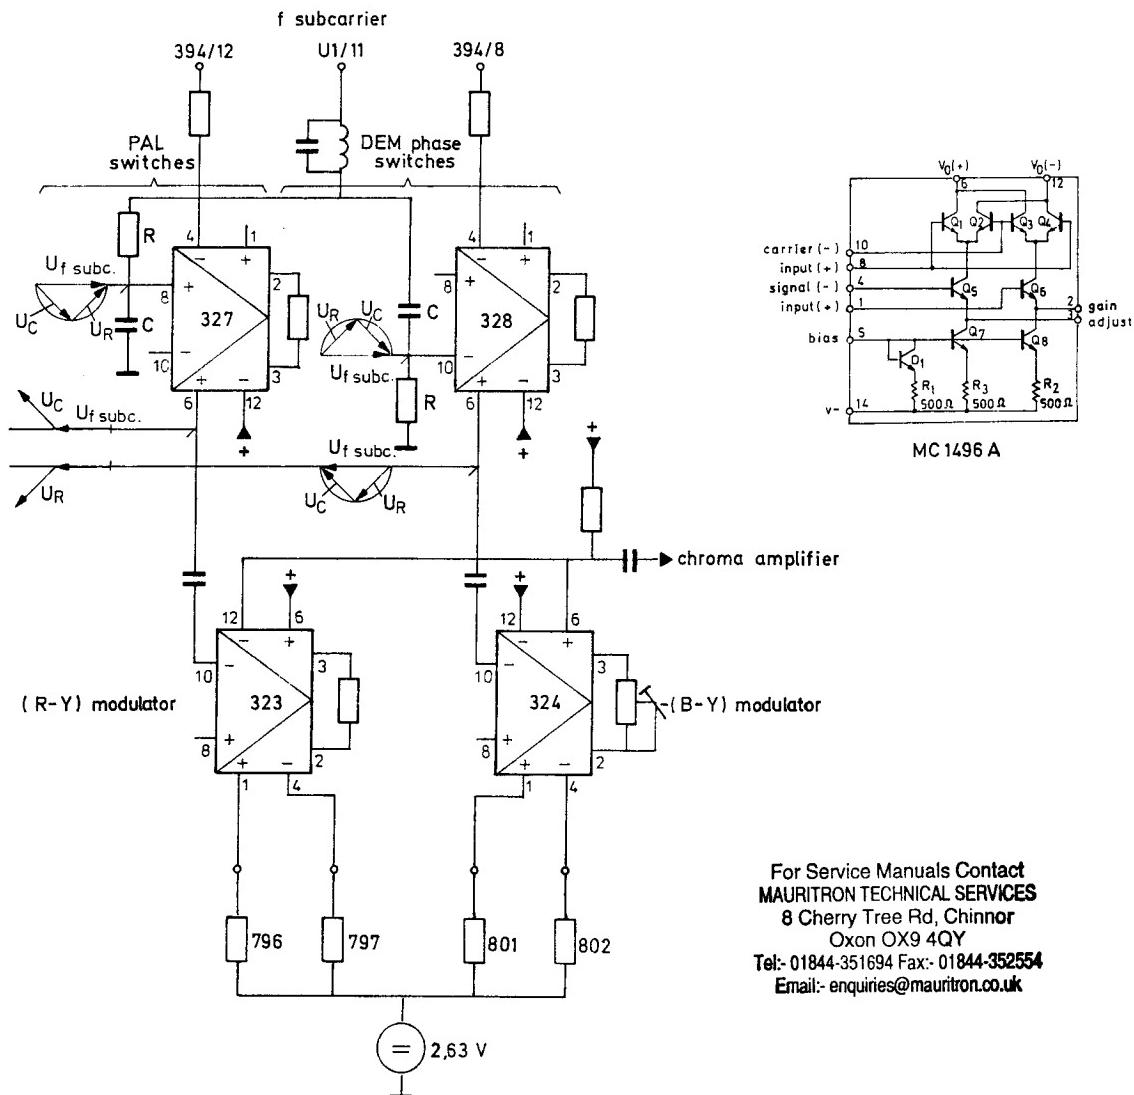

Fig. 18 Colour difference modulators and phase switches of the colour carrier frequencies
2.2.8. Synthesis of the chroma signals, fig. 18
- 2.2.8.1. The **chroma modulator** (fig. 18) consists of 2 output-coupled four quadrant multiplier 323 and 324/U10. The plus and minus signs are pointing out the directions of the input signals with respect to the outputs. The colour carrier frequency (f_{sub}) having passed the phase switches 327, 328 are applied to the chroma modulators 323 and 324, whereby the phase shift of f_{sub} at the two different modulator inputs is 90° . The colour carrier frequencies phase shifted by 90° are multiplied with the colour difference signals (R-Y) and -(B-Y) in the (R-Y) and (B-Y) modulator. The correct amplitude relationship [(R-Y) to (B-Y)] is adjusted by potmeter 811, the residual colour carrier by 800 and 809.
The phase of the outputs 327/6 and 328/6 can be switched to 0° or 180° depending on the digital signals at the inputs 327/4 and 328/4. Low level e.g. at 327/4 cuts off the dc current source Q5 and so the transistors Q1 and Q2 (see fig. 18, detail MC 1496 A), the whole current of Q7, Q8 passes Q6. The output pin 6 obtains the polarity of Q3, and the negative polarity of Q1, if there is a high level at the input 327/4.